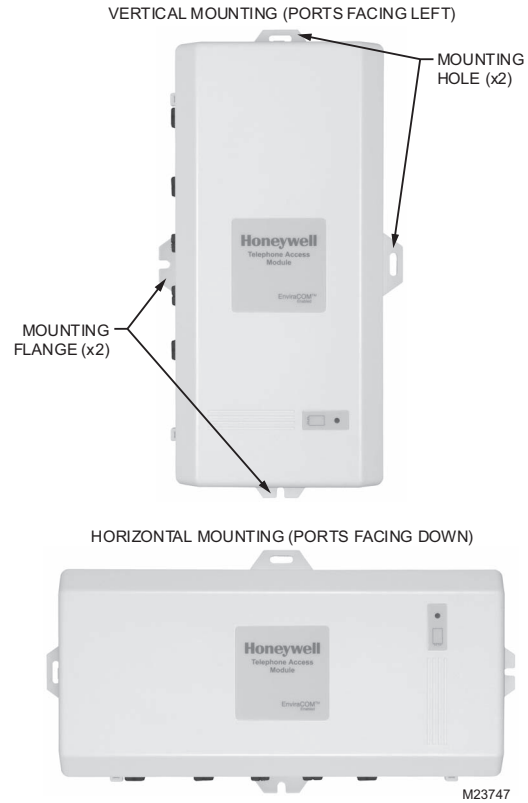

Fig. 3. W8735D Mounting Orientations.
Mount the W8735D in the equipment room near the indoor HVAC equipment. Position the W8735D horizontally so that all wiring connections face toward the floor or vertically so that the power and telephone plugs face the floor. See Fig. 3 on page 4.
3. Use a pencil to mark the mounting holes to be used. The W8735D has two external mounting holes and two external flanges to accommodate a vertical or horizontal installation position. See Fig. 3 on page 4.
7. A Honeywell label is provided in a bag with the W8735D. Remove the adhesive backing from the label and place it on the unit in its proper orientation as shown in Fig. 3 on page 4.